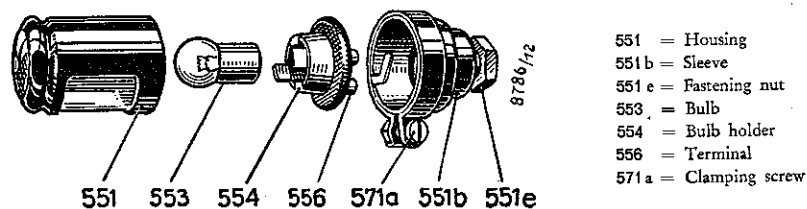

Fig. 15. Number-plate lamp JN 5, dismantled
a) Number plate lamp JN 5 (Fig. 15).
1. Loosen tension screw (Fig. 15).